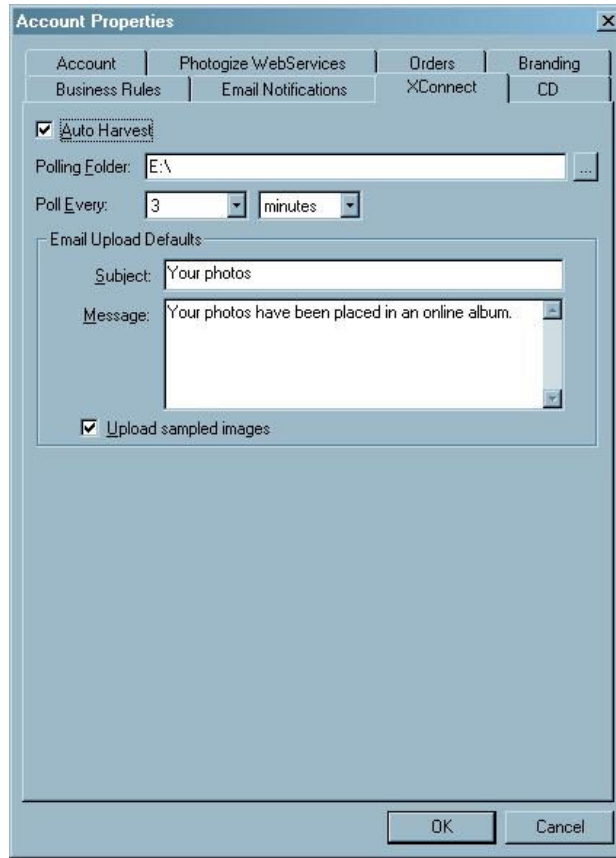

Figure 3: Account Properties
- 3.) In Account Properties windows, select the XConnect tab. (See Figure 3.)